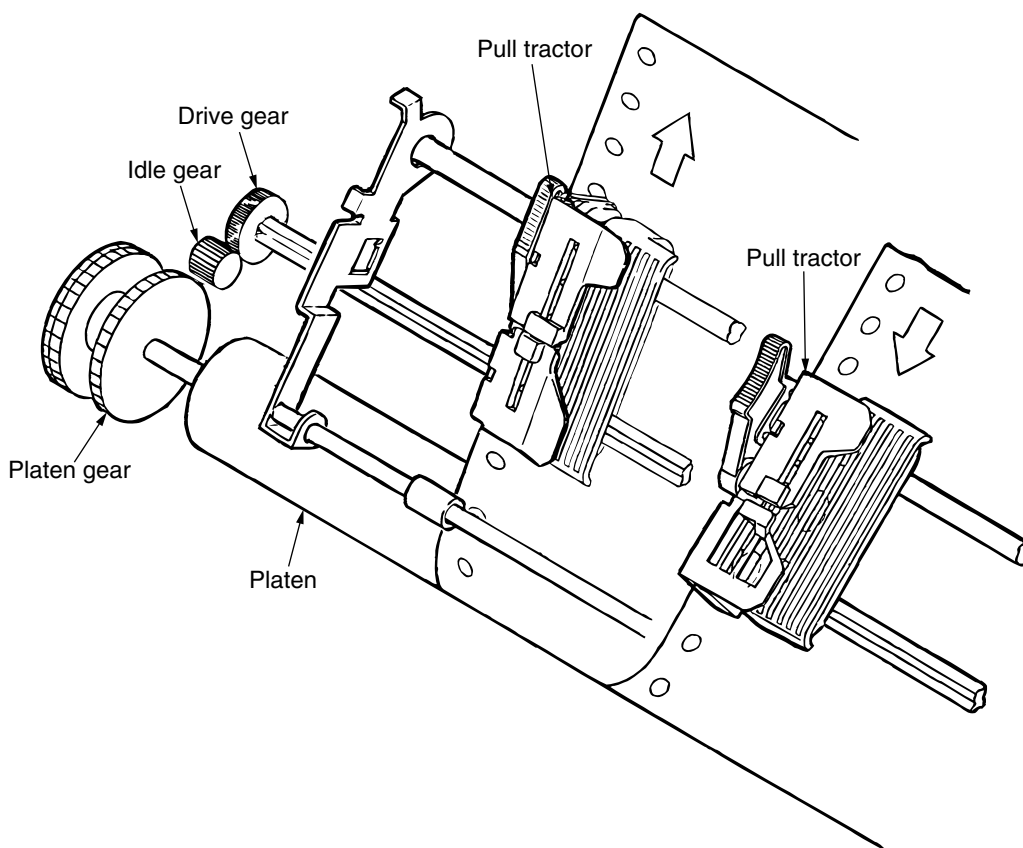

Figure 2-10
(4) Push and pull tractor mechanism (Option) (See Figure 2-10).